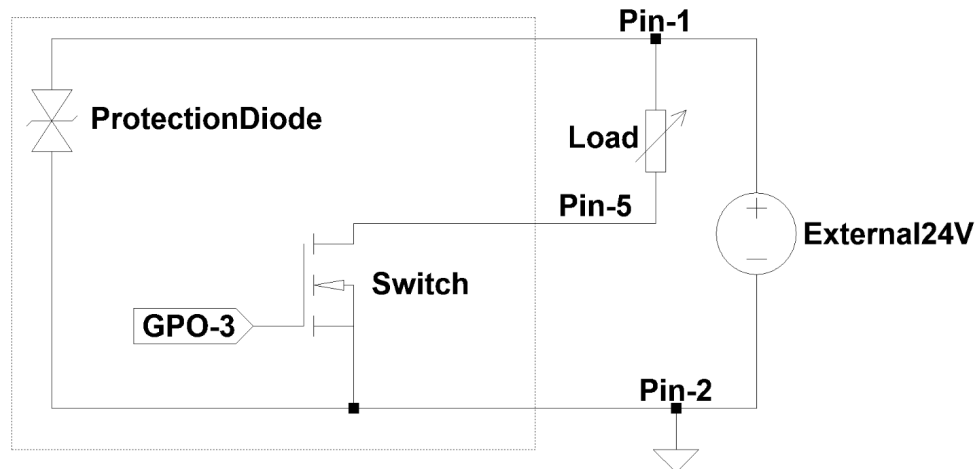

Figure 3 Using the GPIO to control an external device powered by an external supply
2. External devices can be powered by an external power supply, with the reader controlling the devices. To use an external power source connect the +24VDC to Pin 1 and ground to Pin 2 or Pin 12. See Figure 3 below.
Figure 3 depicts the an external 24VDC supply connected to Pin 1 and external ground to Pin 2. An external load is supplied power by the external 24VDC source which has been also connected to Pin 1.